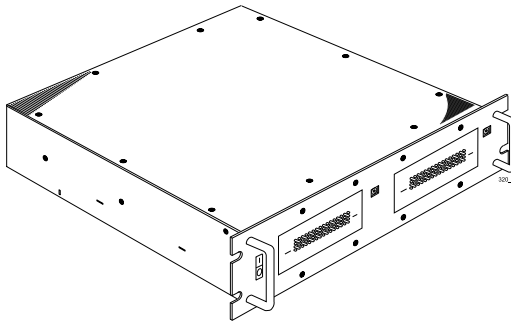

Figure 1: Data Silo DS320
The DS320 is available in a rack mount, dual bay configuration (Figure 1). Each chassis is constructed of rugged steel and is equipped with one (1) 65W auto-ranging power supply, chassis status LED, SCSI ID select switches, two (2) adjustable-speed blowers, and all necessary internal wiring and drive mounting hardware.